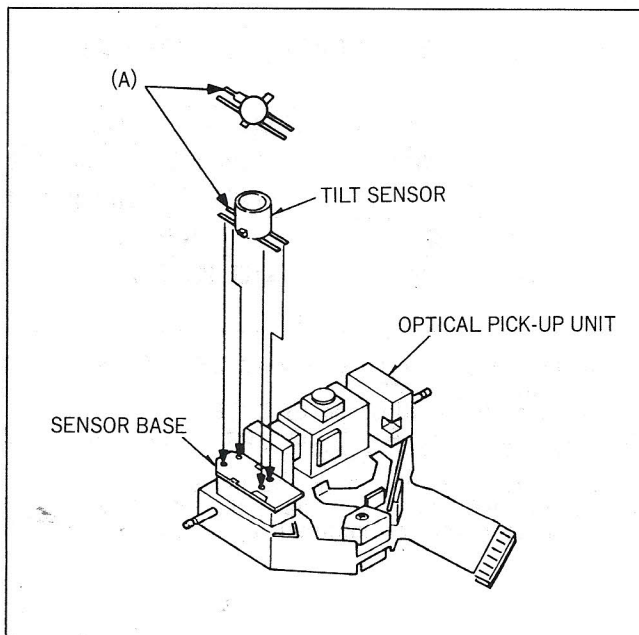

Fig. 8-8 Tilt Sensor
2. Place the new Tilt Sensor on the Sensor Base so that the position (A) of Tilt Sensor matches the upper right corner of Sensor Base as shown in Fig. 8-8. After replacement of the Tilt Sensor, readjust the Electrical Adjustment from step 1-1 "Tilt Sensor Adj." to item 2-4 "CD Focus & Tracking Gain Adj."